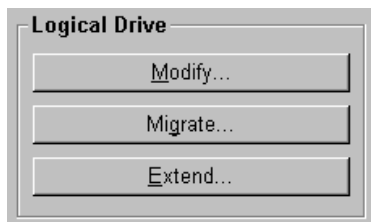
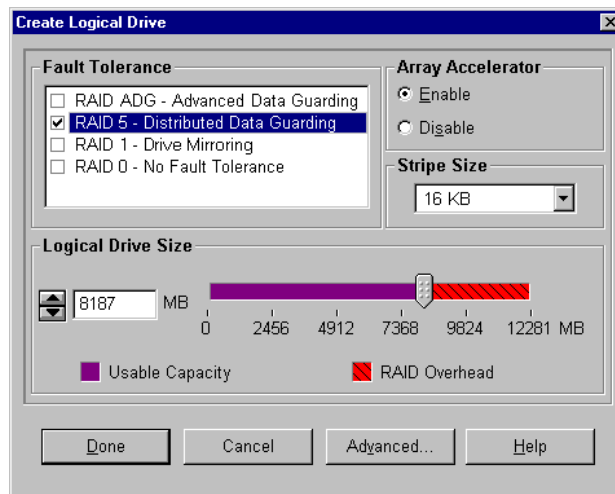

Figure 7-8: Logical Drive box
Figure 7-11: Create Logical Drive screen
To display this screen, click **Modify** in the **Logical Drive** box (Figure 7-8) on the **ACU Main Configuration** screen. This screen resembles the **Create Logical Drive** screen (Figure 7-11), and lets you change the parameters of an existing logical drive while online, without causing data loss.
To display this screen, click **Migrate** in the **Logical Drive** box (Figure 7-8) on the **ACU Main Configuration** screen. It allows you to change the stripe width (block size) or RAID level of an existing logical drive while online, without causing data loss.
To display this screen, click **Extend** in the **Logical Drive** box (Figure 7-8) on the **ACU Main Configuration** screen. This screen allows you to increase the capacity of a logical drive while the system is online, without disruption of data.
3. On the **Create Logical Drive** screen (Figure 7-11), select **RAID 5**.